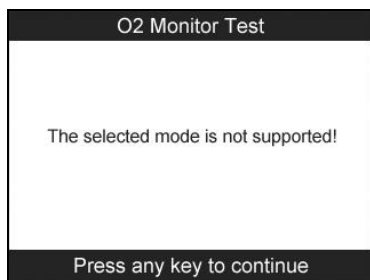

Figure 6.18
- If the vehicle does not support the mode, an advisory message will be displayed on the screen. (Figure6.18)